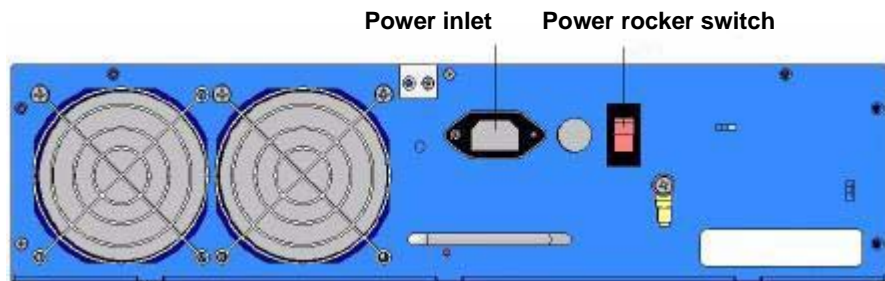

Figure 3-2 The Power inlet and Power rocker switch
The Wave Server chassis can be powered on and off locally using the Power rocker switch located on the back of the chassis (refer to Figure 3-2).
4. Turn off the power to the Wave Server chassis and unplug the power cable from the power supply, as shown in Figure 3-2 (similar positioning on the Wave IP 500).